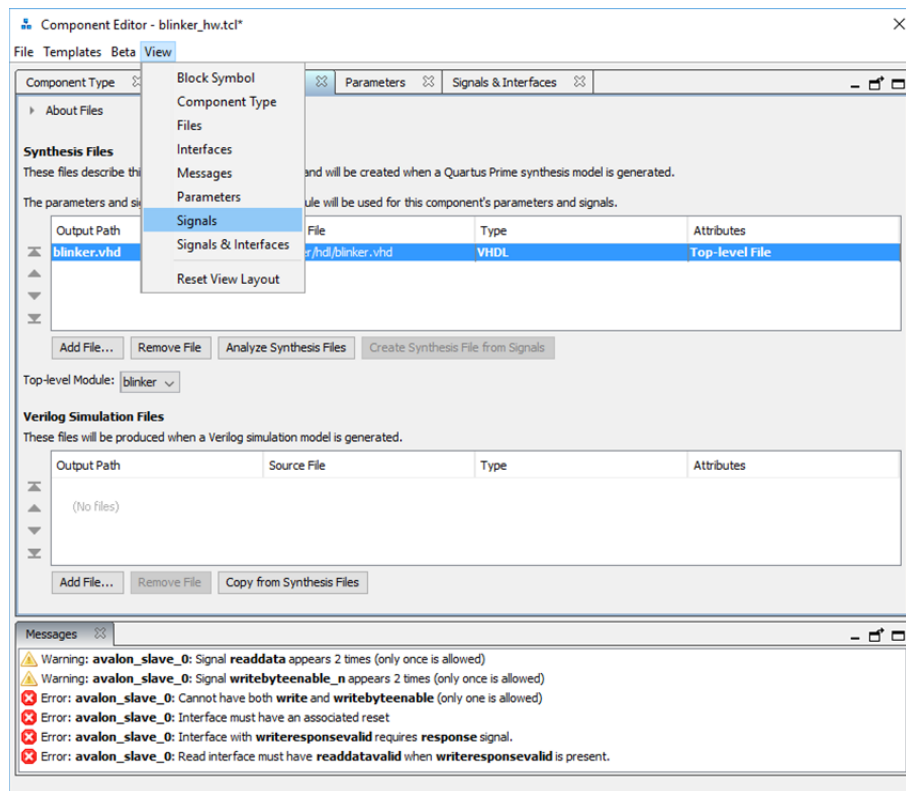

Fig. 91: Accessing signals view for the component
6. Select “View->Signals” (Fig. 91) where you will indicate the purpose of the signals in the module. A new tab is displayed as shown in